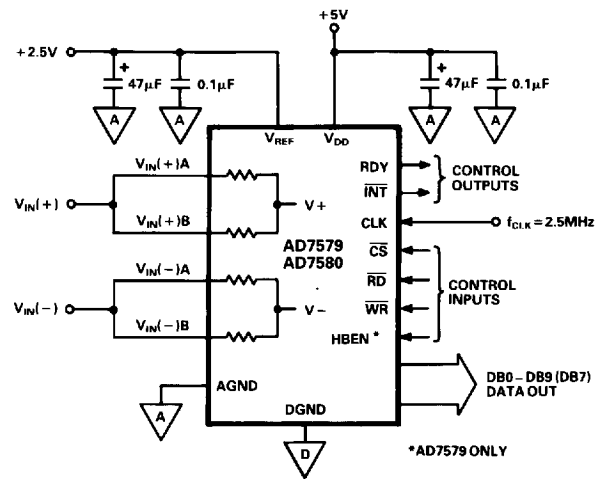

Figure 12. Unipolar 2.5V Operational Diagram
Figure 12 shows the AD7579/AD7580 connected in the standard unipolar mode. Figure 13 and Table V show the ideal input/output
Table V. Input/Output Code Table for Figure 12
*DECOUPLING CIRCUITRY AND CONTROL CIRCUITRY AS IN FIGURE 12
In many cases, users of the AD7579/AD7580 will want to measure single-ended input voltages (i.e., ground referred signals). The circuits of Figures 12, 14 and 15 can be easily adapted to accept such signals. If $V_{IN(-)}$ in Figure 12 is tied to AGND, then the analog input range is 0V to +2.5V. By connecting $V_{IN(-)}$ of Figure 14 to AGND, the analog input range becomes 0V to +5V. Figure 15 can be modified as in Figure 16 to accept input voltages in the range -2.5V to +2.5V. Each of these circuits are special cases of the Differential Input circuits and are achieved by making the negative input to the internal comparator equal to AGND.